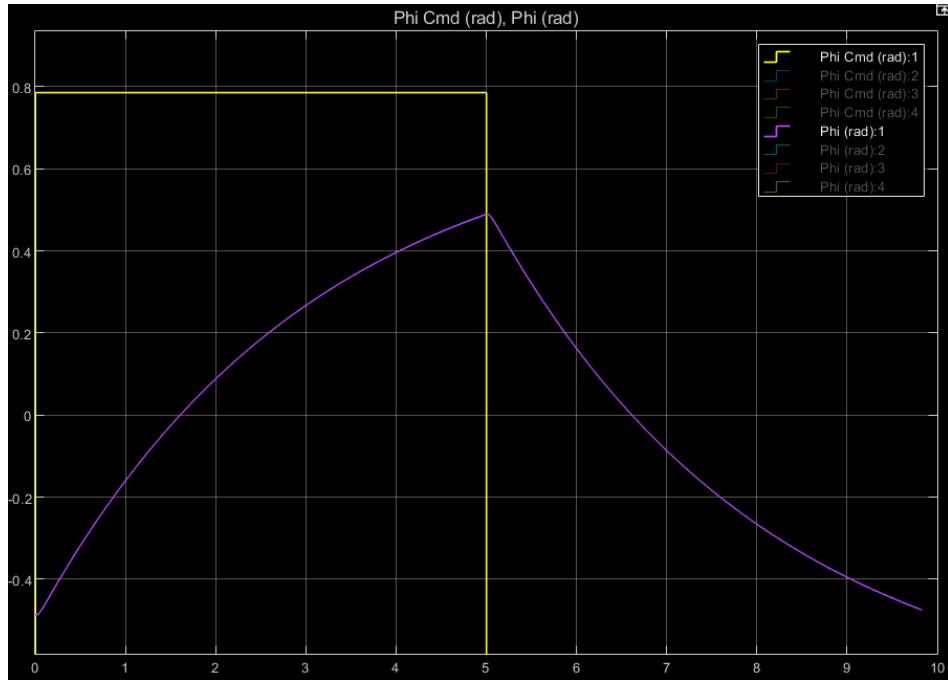

Figure 2.3 Plot of QArm response to pulse input with proportional gain of $[0.1 \ 0.1 \ 0.1 \ 0.1]$
5. Keep the proportional gain matrix K_p at $[0.1 \ 0.1 \ 0.1 \ 0.1]$ (it is a 1×4 , one gain for each joint). To apply a pulse signal to a joint you will need to toggle one of the switches in the Exploration Box to be 'ON'. Start by toggling the Base joint. Set the gain block after the Base signal generator to 1 and leave the bias block set to zero for now. The pulse input applied to the arm oscillates between $\frac{\pi}{4}$ and $-\frac{\pi}{4}$ (+45 and -45 degrees). You can use the Controller Performance scope to monitor the arm's response, and you will also be able to see the physical arm responds. You can turn off all plotted lines apart from 'Phi Cmd \(rad\) 1' and 'Phi \(rad\) 1' by clicking each coloured line and you should see the response shown in Figure 2.3.